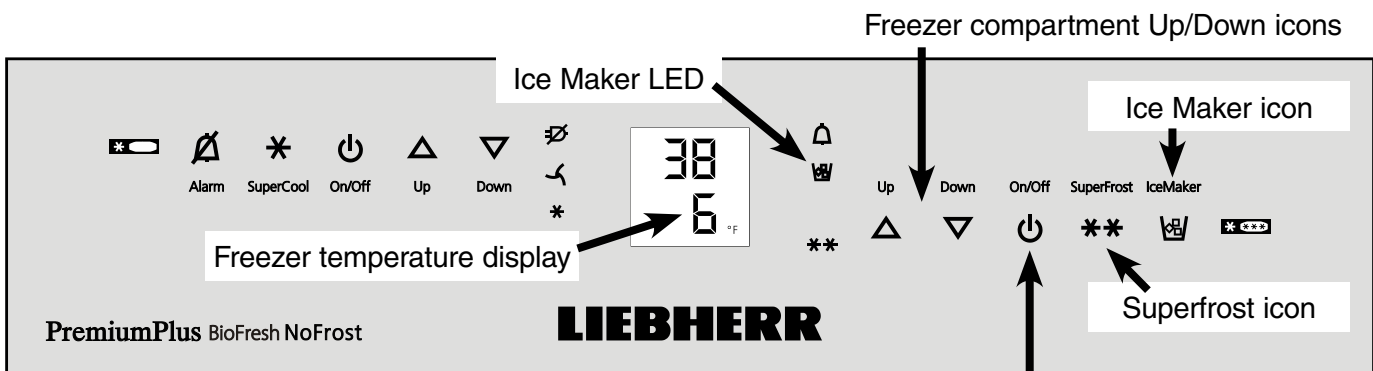

Figure 26
- Turn the Ice Maker on by touching the Ice Maker icon (**Figure 26**).
- Touch the **Ice Maker icon** so the **Ice Maker LED** comes on (**Figure 26**).